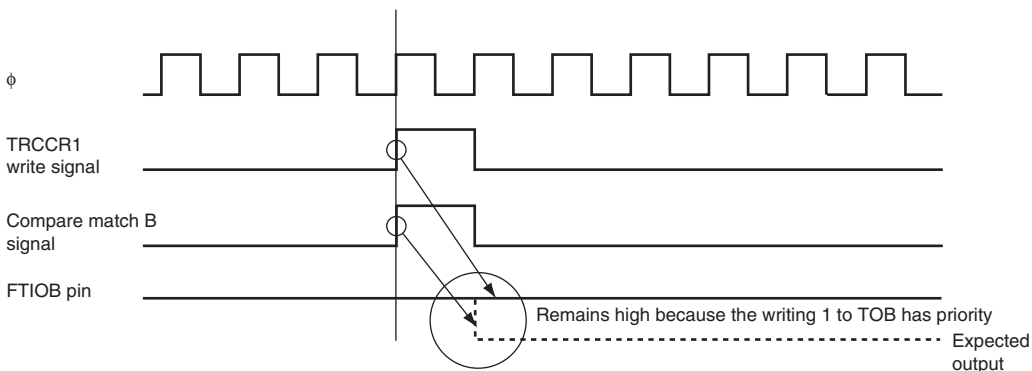

Figure 15.39 When Compare Match and Bit Manipulation Instruction to TRCCR1 Occur at the Same Timing
- The TOA to TOD bits in TRCCR1 decide the output value of the FTIO pin until the first compare match occurs. Once a compare match occurs and this compare match changes the values of FTIOA to FTIOD output, the values of the FTIOA to FTIOD pin output and the values read from the TOA to TOD bits may differ. Moreover, when the writing to TRCCR1 and the generation of the compare match A to D occur at the same timing, the writing to TRCCR1 has the priority. Thus, output change due to the compare match is not reflected to the FTIOA to FTIOD pins. Therefore, when bit manipulation instruction is used to write to TRCCR1, the values of the FTIOA to FTIOD pin output may result in an unexpected result. When TRCCR1 is to be written to while compare match is operating, stop the counter once before accessing to TRCCR1, read the port H state to reflect the values of FTIOA to FTIOD output, to TOA to TOD, and then restart the counter. Figure 15.39 shows an example when the compare match and the bit manipulation instruction to TRCCR1 occur at the same timing.